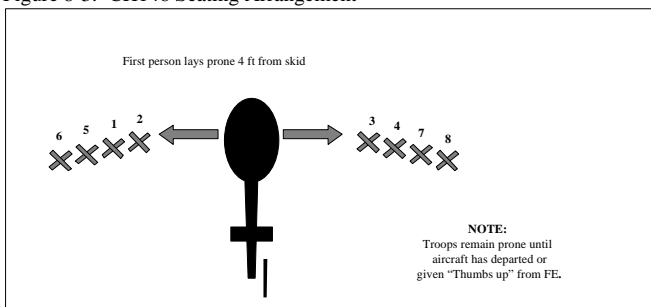

Figure 8-4: Troop Movement & Positioning on Disembarkation
- c. Troop disembarkation is as per Figure 8-4.